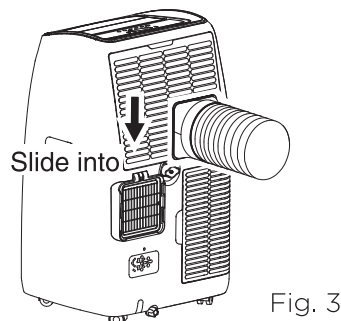

Fig. 3
- d. Install the Hose Inlet into the groove at the back of the unit and extend the exhaust hose. (see Fig. 3)